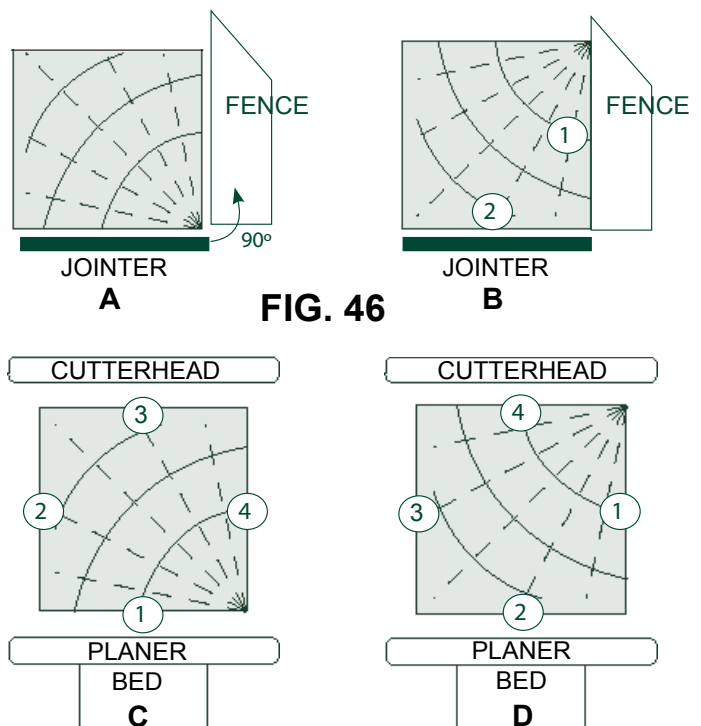

FIG. 46
1. FIG. 46, A - On the jointer, surface side 1 flat.